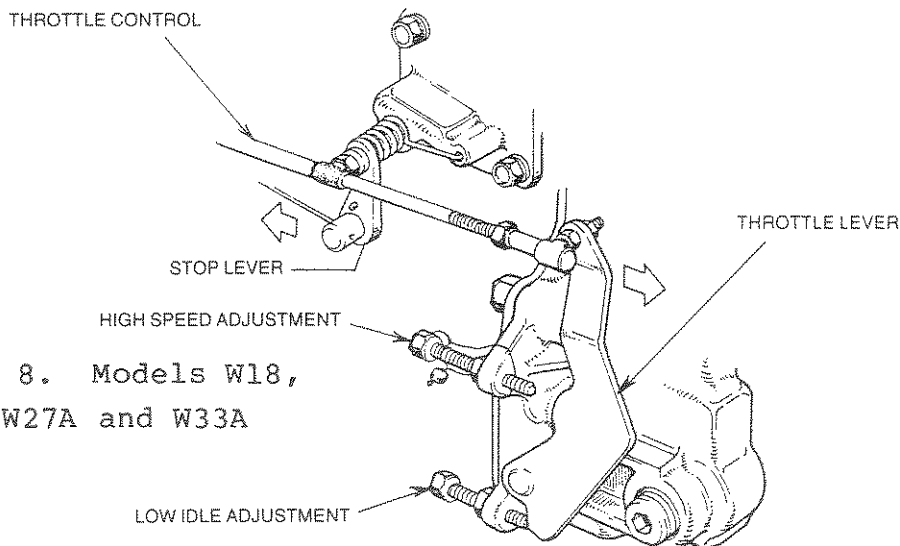

Figure 8. Models W18,
2. Models W18, W21A, W27A and W33A (See Figure 8)